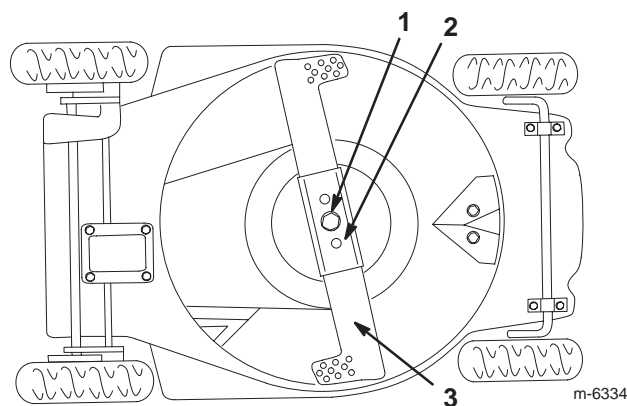

Figure 28
3. Tip the lawn mower onto its **left** side (Fig. 28).
2. Remove the blade bolt, the lock washer, the blade, and the blade stiffener (Fig. 28).